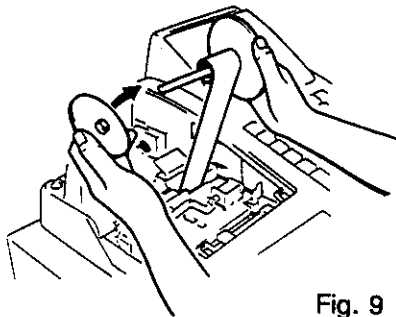

Fig. 9
6. When a sufficient amount of paper comes out, wind the paper around the Journal Winding Reel two or three times, and set the Journal Winding Reel into the Reel Holder. (Fig. 9)